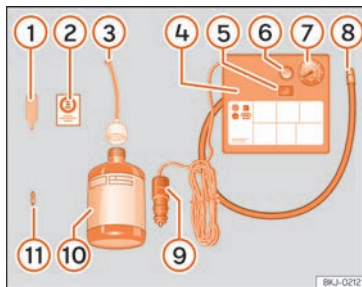

Fig. 40 Standard representation: anti-puncture kit contents.
»» **Fig. 40:**
- Unscrew the tyre valve cap and insert. Use the »» **Fig. 40** ① tool to remove the insert. Place it on a clean surface.
- Shake the tyre sealant bottle vigorously »» **Fig. 40** ⑩.
- Screw the inflator tube »» **Fig. 40** ③ into the sealant bottle. The bottle's seal will break automatically.
- Remove the lid from the filling tube »» **Fig. 40** ③ and screw the open end of the tube into the tyre valve.
- Place the insert back into the tyre valve using the tool »» Fig. 40 ①.
- Screw the compressor tyre inflator tube »» Fig. 40 ⑧ into the tyre valve.
- Check that the air bleed screw is closed »» Fig. 40 ⑥.
- Insert the connector »» Fig. 40 ⑨ into the vehicle's 12-volt socket »» page 153.
- Turn the air compressor on with the ON/OFF switch »» Fig. 40 ⑤.
- Attach the sticker »» Fig. 40 ② to the instrument cluster, within the driver's visual field.
Screw the inflator tube »» Fig. 40 ⑤ again and check the pressure on the gauge ⑥.